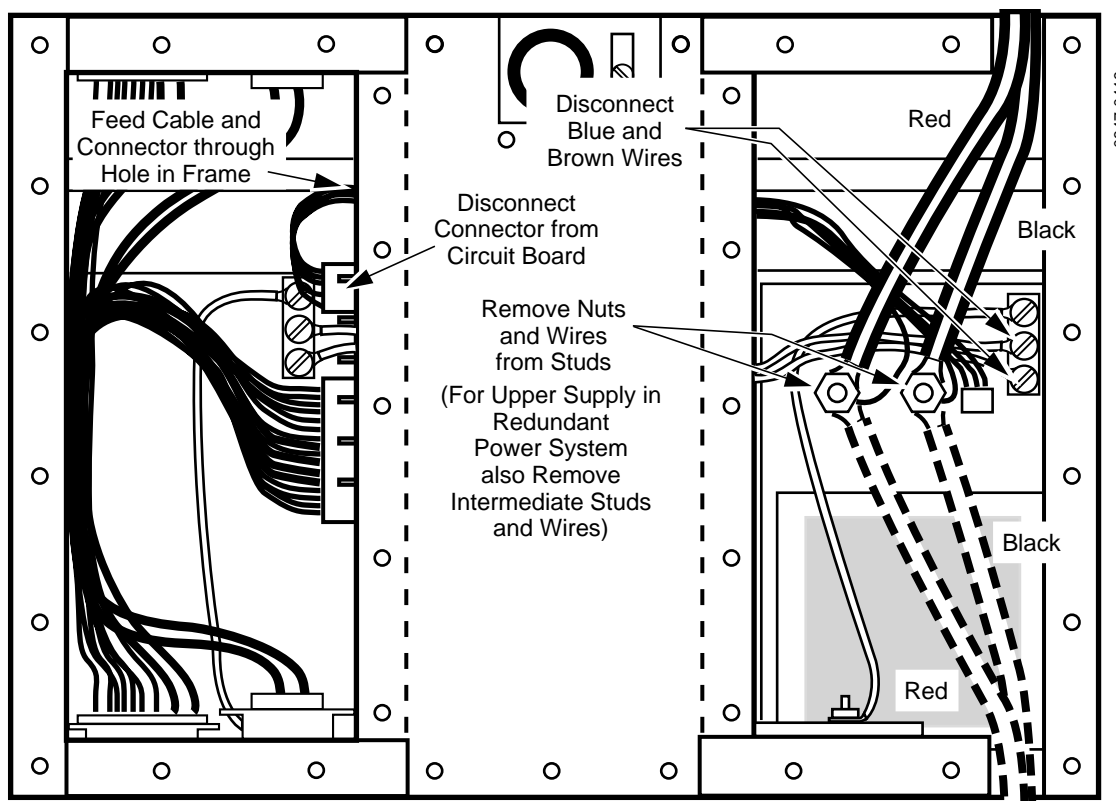

Figure 4-8. Removal of Pioneer +5 Volt Power Supply Assembly
4. Remove both the right and left rear covers of the power supply frame, as viewed from the rear, to access the wiring connections. See Figure 4-8.